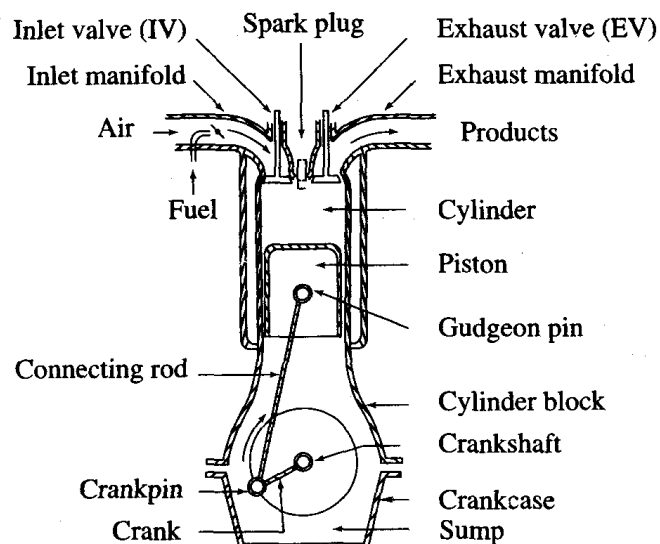

Fig. 1.2 Cross-section of spark-ignition engine
- A cross section of a single cylinder spark-ignition engine with overhead valves is shown in Fig.1.2. The major components of the engine and their functions are briefly described below.